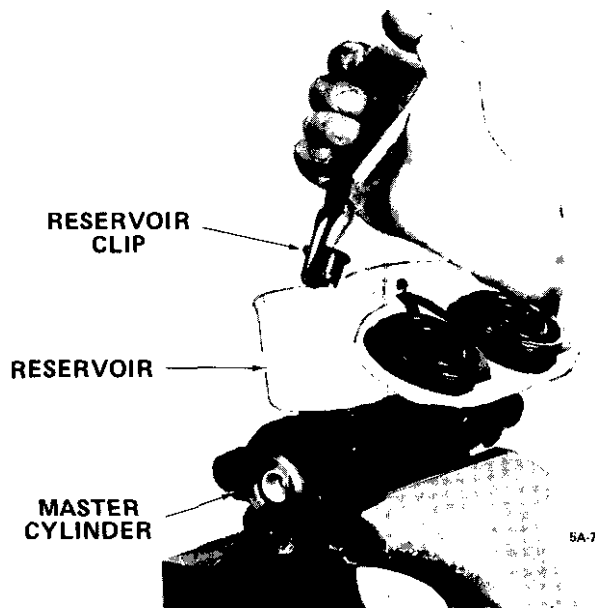

Figure 5A-7 Removing Reservoir Clips
2. Remove reservoir from master cylinder body by removing reservoir clips with snap ring pliers. See Figure 5A-7.